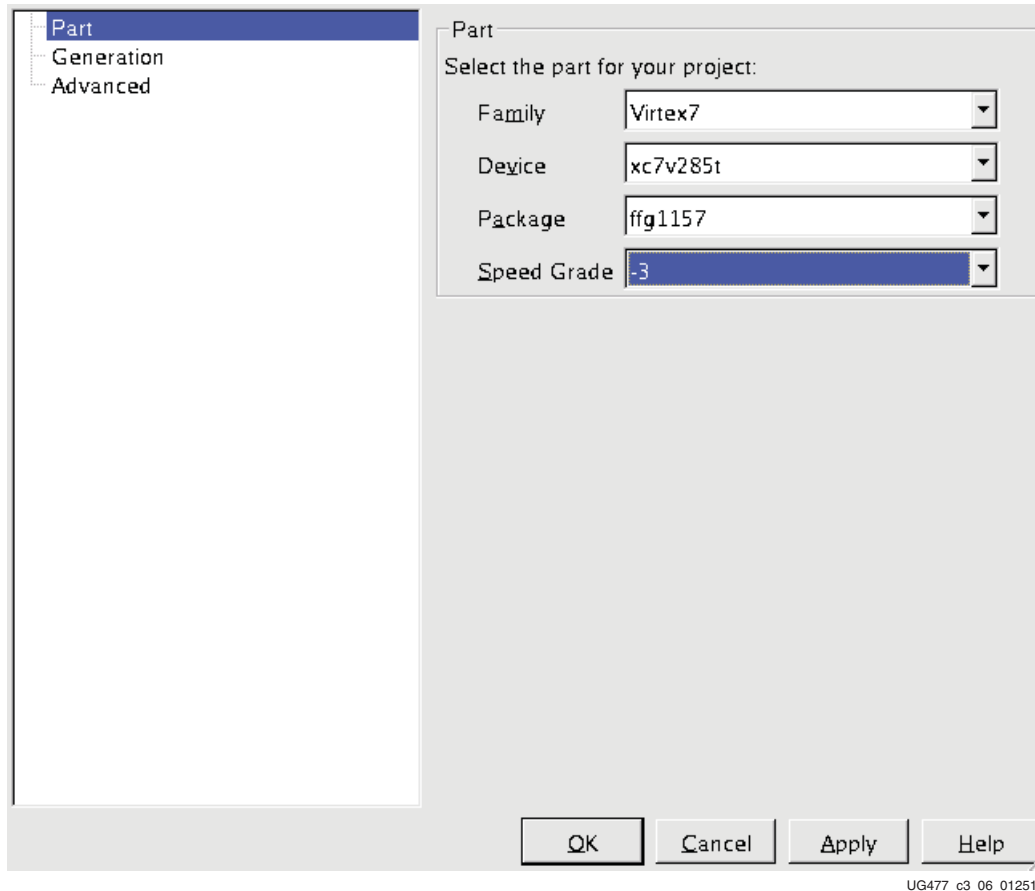

Figure 12-4: Project Options
5. Set the project options (Figure 12-4):